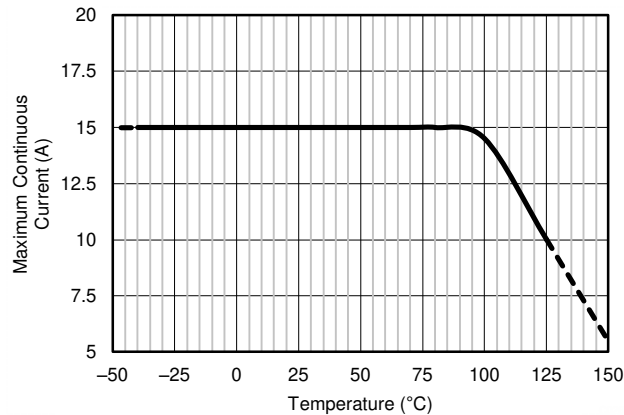

Figure 7-1. Maximum Current vs Temperature
- (3) The supply voltage range maximum is 36 V, but the reference voltage cannot be higher than 18 V.
- (4) See Figure 7-1 and the *Layout* section for additional information on the current derating and layout recommendations to improve the current handling capability of the device at higher temperatures.
- (5) See the *Integrated Shunt Resistor* section for additional information regarding the integrated current-sensing resistor.
- (6) System gain error includes amplifier gain error and the integrated sense resistor tolerance. System gain error does not include the stress related characteristics of the integrated sense resistor. These characteristics are described in the *Shunt Resistor* section of the *Electrical Characteristics* table.
- (7) The internal shunt resistor is intended to be used with the internal amplifier and is not intended to be used as a stand-alone resistor. See the *Integrated Shunt Resistor* section for more information.
External factors (such as ambient temperature, external air flow, and PCB layout) may contribute to how effectively the heat developed from the current flowing through the total package resistance may be removed from the device. Under the conditions of no air flow, a maximum ambient temperature of +85°C, and 1-oz. copper input power planes, the INA250-Q1 device can accommodate continuous current levels up to 15 A. As shown in Figure 7-1, the current handling capability is derated at temperatures above the +85°C level with safe operation up to 10 A at a +125°C ambient temperature. With air flow and larger 2-oz. copper input power planes, the INA250-Q1 may safely accommodate continuous current levels up to 15 A over the entire –40°C to +125°C temperature range.